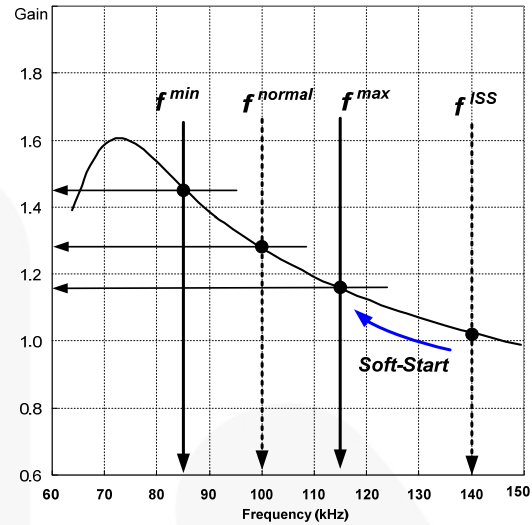
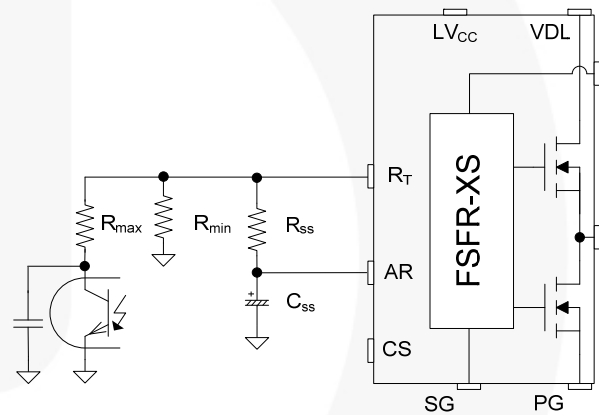
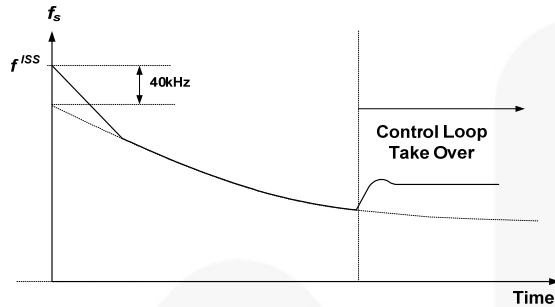

Figure 17. Resonant Converter Typical Gain Curve
Figure 18. Frequency Control Circuit
Figure 19. Frequency Sweeping of Soft-Start
3. Frequency Setting: Figure 17 shows the typical voltage gain curve of a resonant converter, where the gain is inversely proportional to the switching frequency in the ZVS region. The output voltage can be regulated by modulating the switching frequency. Figure 18 shows the typical circuit configuration for the R_T pin, where the opto-coupler transistor is connected to the R_T pin to modulate the switching frequency.
To prevent excessive inrush current and overshoot of output voltage during startup, increase the voltage gain of the resonant converter progressively. Since the voltage gain of the resonant converter is inversely proportional to the switching frequency, the soft-start is implemented by sweeping down the switching frequency from an initial high frequency (f_{ISS}) until the output voltage is established. The soft-start circuit is made by connecting R-C series network on the R_T pin, as shown in Figure 18. FSFR-XS series also has a 3ms internal soft-start to reduce the current overshoot during the initial cycles, which adds 40 kHz to the initial frequency of the external soft-start circuit, as shown in Figure 19. The initial frequency of the soft-start is given as: